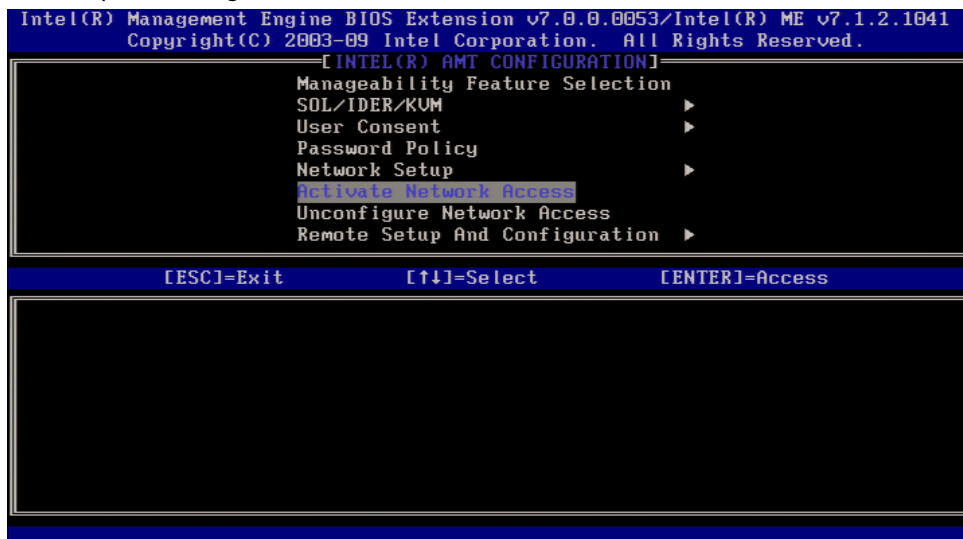

Figure 22. Intel AMT Activate Network Access Screen
16. Activate Network Access. From the Intel ME Platform Configuration menu Figure 22), select **Activate Network Access**. This function causes the Intel ME to transition to the POST provisioning state if all required settings are configured. The Un-configure Network Access option will cause the Intel ME to transition to PRE provisioning state.